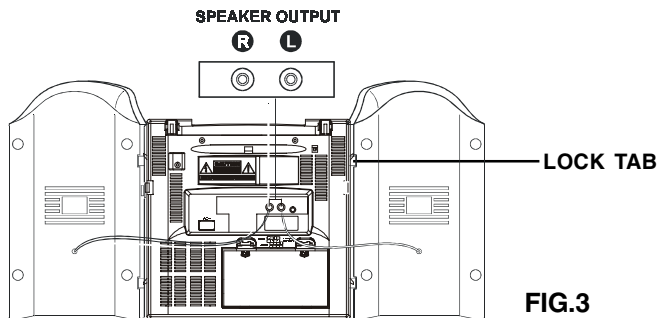

FIG.3
5. Carefully unwind the speaker wire from behind each speaker box and plug the right plug into Speaker Jack R, also plug the left plug into Speaker Jack L (as shown in FIG. 3). Wrap the remaining wire behind each speaker box.